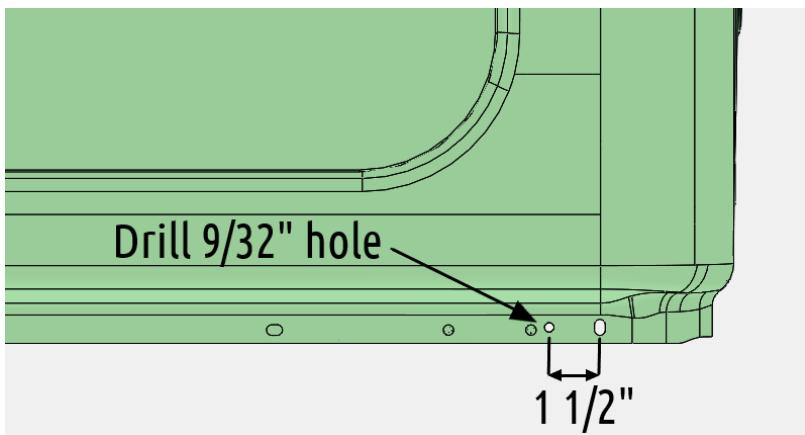

Fig. 1 – Hole Location to be Drilled
3. Mark and drill a $9/32"$ hole $1\frac{1}{2}"$ forward from the rearmost existing hole and $\frac{1}{2}"$ from the bottom of the pinch weld (Fig 1)